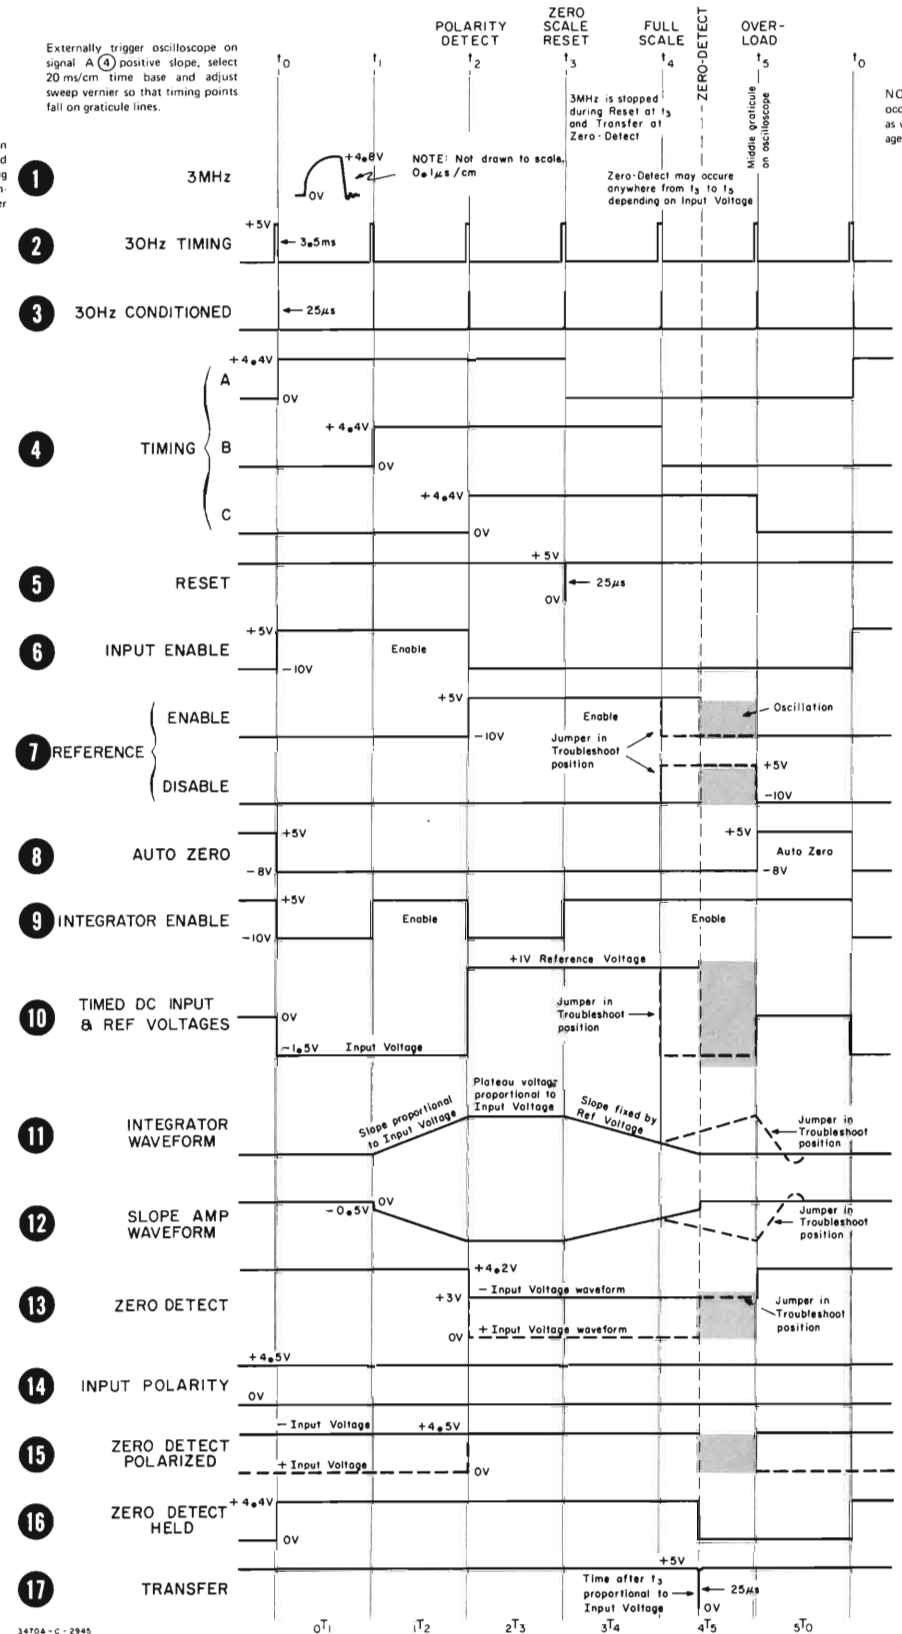

Figure 7-3. Timing Diagram.
7-8. Table 7-1 and Signal Development Diagram Figure 7-2 show which of the 27 major signals directly develop each of the 27 signals. Each signal is described in Figure 7-3 or 7-4 so that it may be determined to be correct or incorrect. Table 7-1 lists the components that may be faulty when a signal is found to be incorrect but its developing signals correct.
4. Refer to the Signal Development diagram Figure 7-2 and Table 7-1, and begin checking signals according to Figures 7-3 and 7-4. Good starting points are signal (11) and timing signals A, B and C at (4).